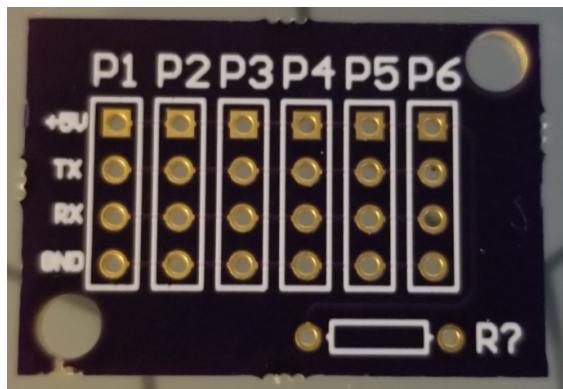

Figure 15: Unpopulated Serial Splitter Board
1. The board will come unpopulated and will look like the board in Figure 15. First solder the 4.7K resistor and all of the header pins into the board.